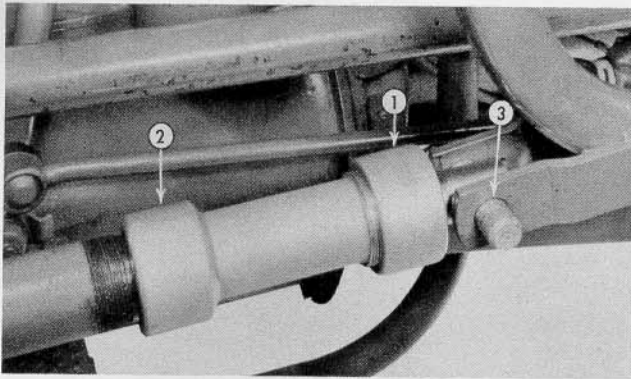

Fig. 7
Step 1—Loosen packing nut (1—Fig. 7). Unscrew stuffing box (2) from cylinder. Remove pin (3).